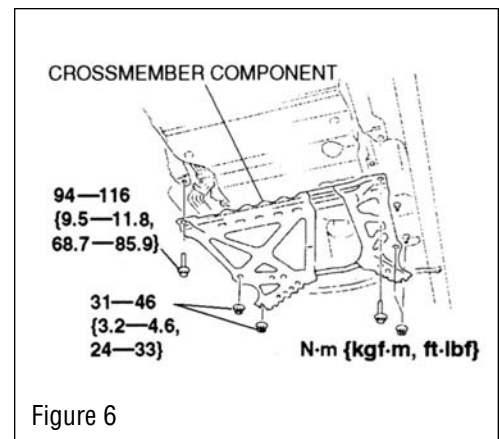

Figure 6
5) Carefully remove the oxygen sensor (C) from the front pipe. Spray the threads of the sensor with a penetrating spray before attempting to remove the sensor. Continue to spray the threads while the sensor is being removed, being careful not to contaminate the end of the sensor. Before installing the header, apply a small amount of "never-seize" material to the sensor threads (again, do not allow this material to contact the end of the sensor), and place the sensor in the Racing Beat header. Tighten the sensor to 22-36 ft/lbs. Do not attach the wiring harness at this time.
10) Reinstall the mid-chassis brace (crossmember component) on the vehicle. Tighten to the torque settings as specified in Figure 6.